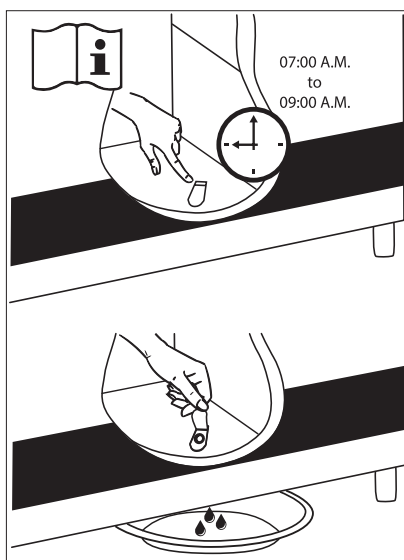

fig. 16
3. Place a tray under the condensation water drain. If the appliance has an auto-drainage system, no need for tray. See fig.16